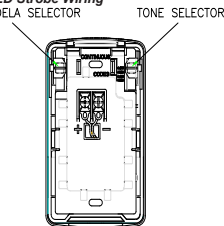

Figure 4: Candela Selector
**NOTE:** Candela settings are shown in Figure 4.